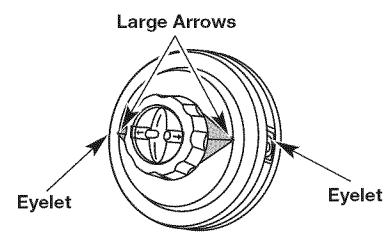

Fig. 19
- Align the large arrows on the spool with the eyelets (Fig. 19).